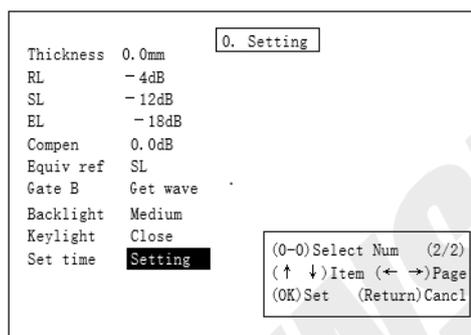

Figure2-24
2.2.7.21 Time Setting Selection: Press to set the inverse display, as shown in Figure 2-24.